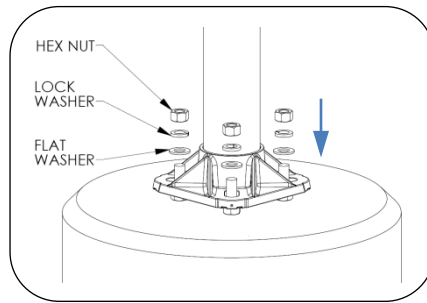

Fig.9 – Install pole
15. Lift the light pole into position over the installed anchors (refer to Typology Ring Light anchor kit installation guide) as shown in Fig. 9. Ensure that the base plate is resting on all four washers.
16. Install washer, lock washer and hex nut as shown in Fig.9.